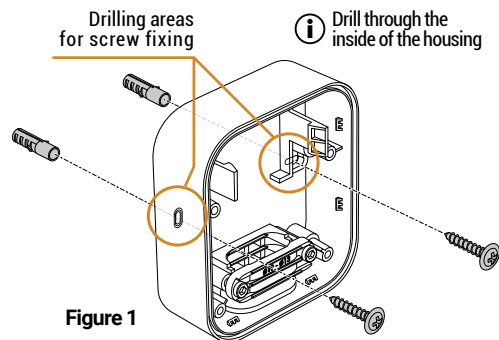

Figure 1
- 2 Fix the Surface Mounting Box to the wall (use fixings - not included - suitable for the bracket) - see figure 1.